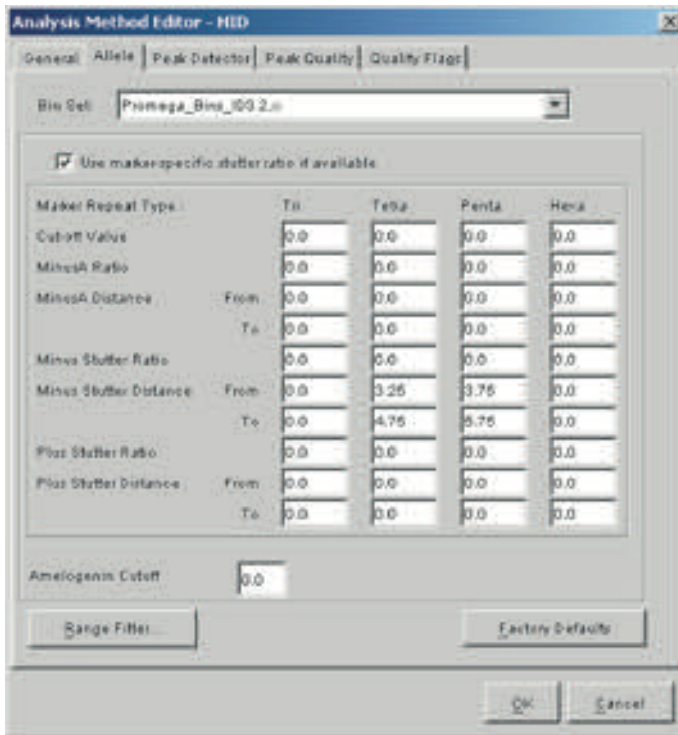

Figure 5. The Allele tab.
6. Select the Allele tab (Figure 5).
9. Enter the values shown in Figure 5 for proper filtering of stutter peaks when using the PowerPlex® 16 System. For an explanation of the proper usage and effects of these settings, refer to the Applied Biosystems user bulletin titled “Installation Procedures and New Features for GeneMapper ID Software 3.2”.